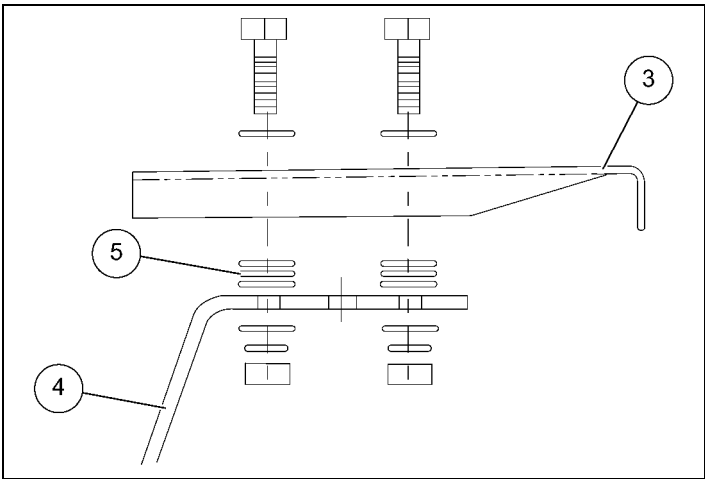

Figure 4B Use Washers to Level Unit
- 5. If the unit is not level, add spacer washers between hanger brackets and hanger extensions to level unit. (See Figure 4B.)